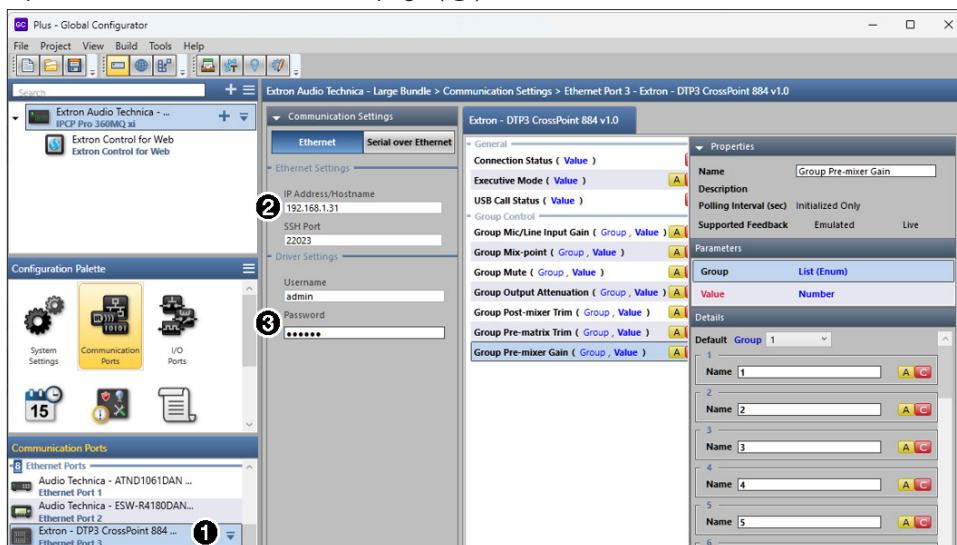

Figure 35. Configuration View — Communications Ports page for DTP3 CrossPoint
4. Choose DTP3 CrossPoint under the Ethernet Ports list (see figure 35, ❶).
5. Set IP address (❷) and Admin password of the DTP3 CrossPoint device (❸).